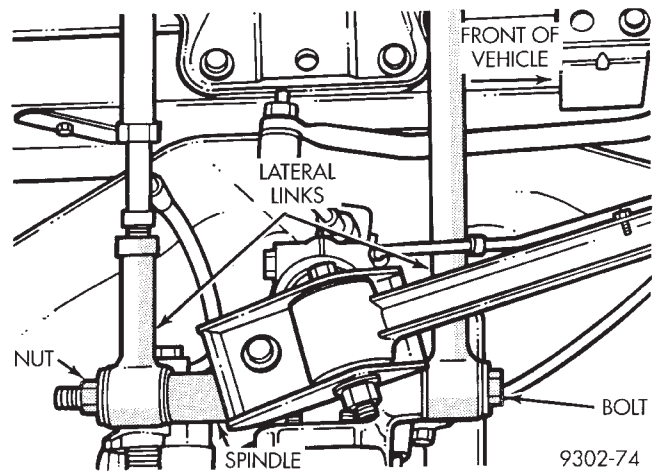
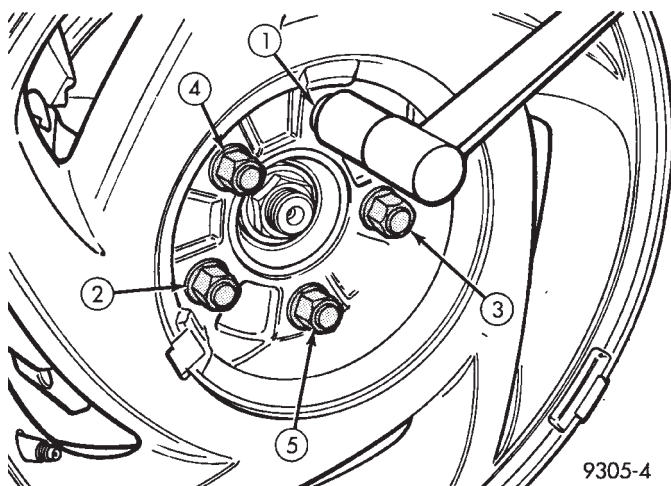

Fig. 2 Lateral Link Attachment To Spindle
Fig. 4 Tightening Wheel Nuts
(1) Raise vehicle on jackstands or centered on a frame contact type hoist. See Hoisting in the Lubrication and Maintenance section of this manual, for the required lifting procedure to be used for this vehicle.
(2) Remove both rear wheel and tire assemblies from the vehicle.
(3) Position a transmission jack under the fuel tank just forward of the crossmember to help support fuel tank when crossmember is removed.
(4) Remove the nut and bolt on each side of vehicle attaching the lateral links to the spindle (Fig. 2).
(3) Align lateral links with spindles and install the lateral link to spindle attaching bolts (Fig. 2). Torque the lateral link to spindle attaching bolts to 140 N•m (105 ft. lbs.).
(4) Remove transmission jack supporting fuel tank.
(5) Install wheel and tire assembly on vehicle. Tighten the wheel mounting stud nuts in proper sequence (Fig. 4) until all nuts are torqued to half specification. Then repeat the tightening sequence to the full specified torque of 129 N•m (95 ft. lbs.).
(6) Lower vehicle to the ground.